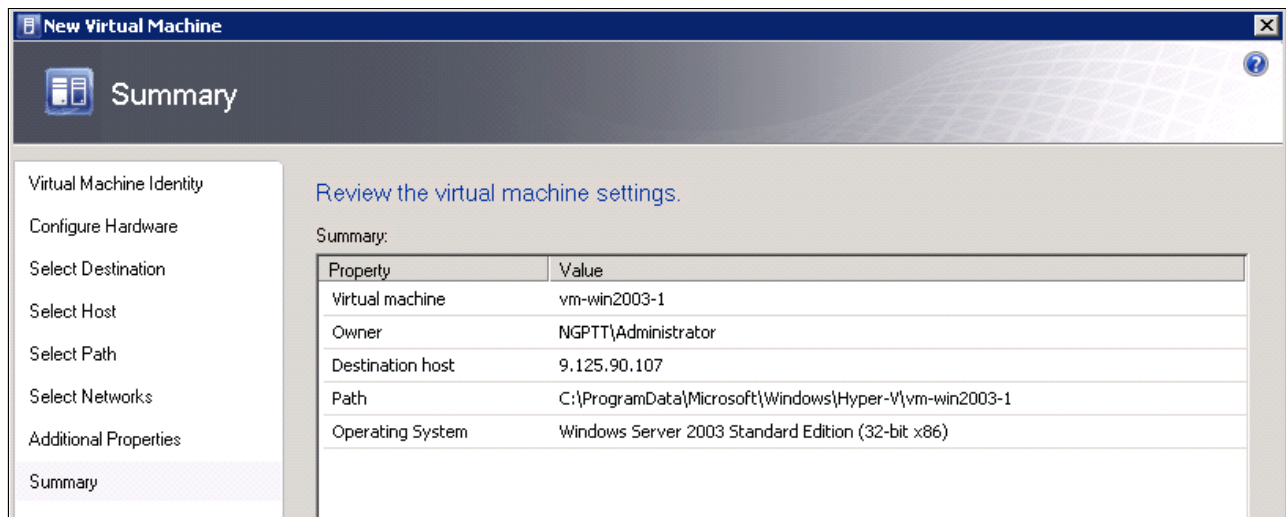

Figure 3-70 SCVMM New Virtual Machine: Summary
9. Review the Summary page, as shown in Figure 3-70. Click **Create** to start the migration.